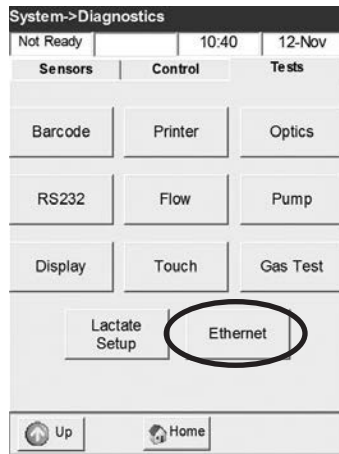

Fig. 7-41 Ethernet
- Press **<Ethernet>** to start the test (Fig. 7-41).